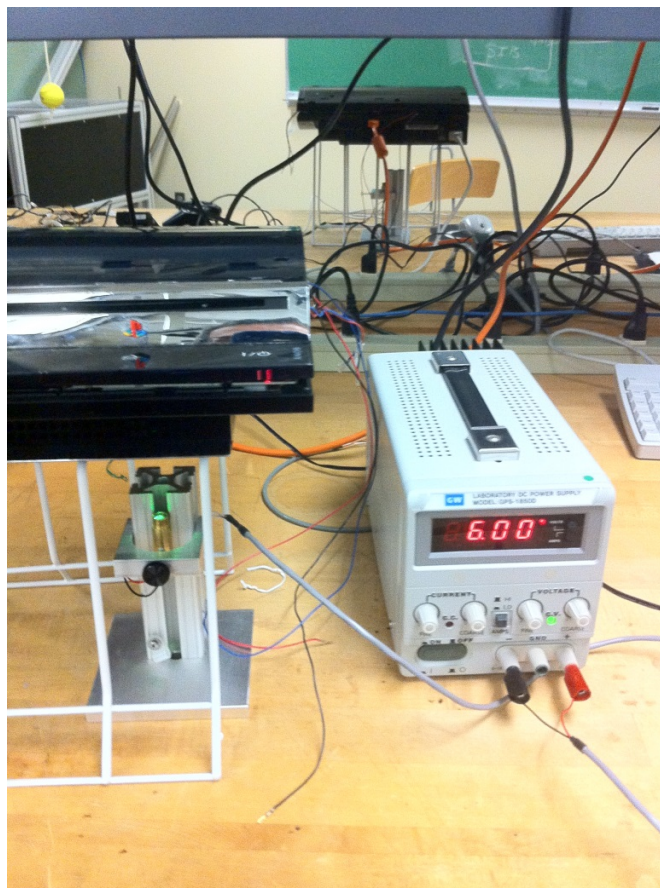

Figure 7 - Clamping and alignment of laser for photocell measurements of fan speed.
3. Position the laser underneath the fan of the PS3. The final setup should look like Figure 7.